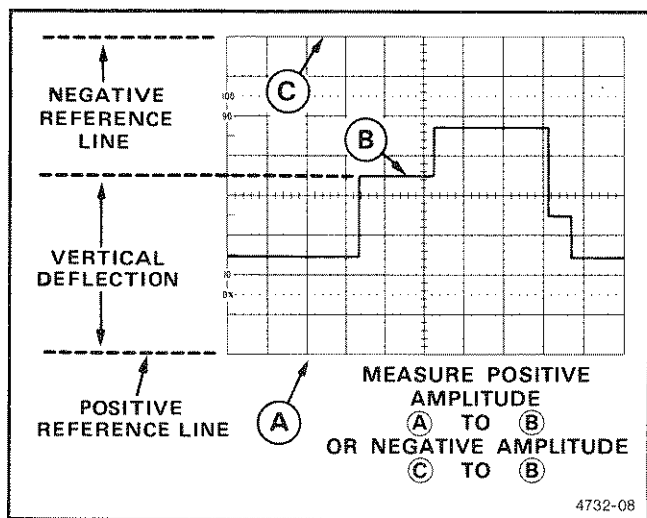

Figure 2-13. Instantaneous voltage measurement.
- Measure the divisions of vertical deflection between the ground reference line and the point on the waveform at which the level is to be determined (see Figure 2-13).
EXAMPLE: The measured vertical deflection from the reference line is 4.6 divisions (see Figure 2-13). The waveform point is above the reference line, A 10X attenuator probe is being used, and the VOLTS/DIV switch is set to 2 V (at 10X PROBE setting).